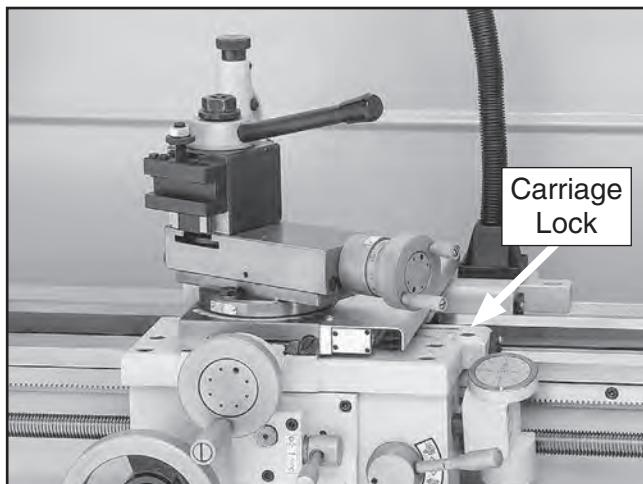

Figure 76. Location of carriage lock.
5. Verify carriage lock is loose (see **Figure 76**)